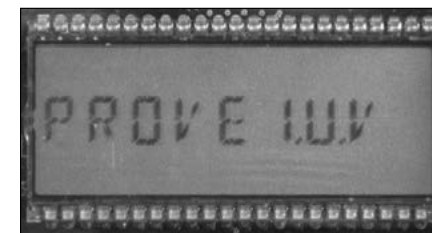

Figure 7 - LCD screen changes to PROVE I.U.V
- After five seconds, the display will change to PROVE I.U.V (Figure 7).